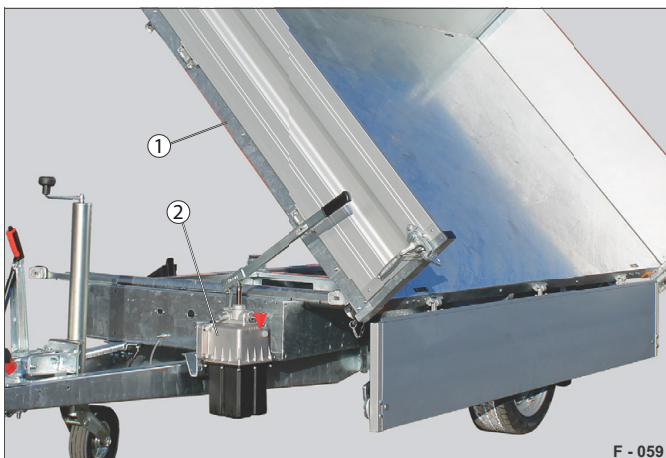

Fig. 62 Tipped position
- Hydraulic pumps (Fig. 62 /2) operate a telescopic cylinder to raise / lower or tip the loading bridge (Fig. 62 /1).